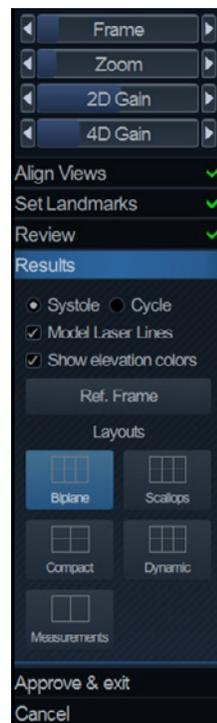

Figure 1. Stages
The workflow is divided into stages (see Figure 1) accessible both through the touch panel as well as on the main screen. When entering the tool, the first step is to adjust 2D gain, 4D gain and zoom if needed. These controls are available throughout the remaining stages to always ensure optimal image quality. Then one can set/adjust the End Systolic (ES) and End Diastolic (ED) time events if needed. This is followed by an **Alignment** stage (see Figure 2) to ensure a standardized and expected view is obtained where the vertical axis crosses through the center of the MV, while the horizontal axis is parallel to the mitral valve.